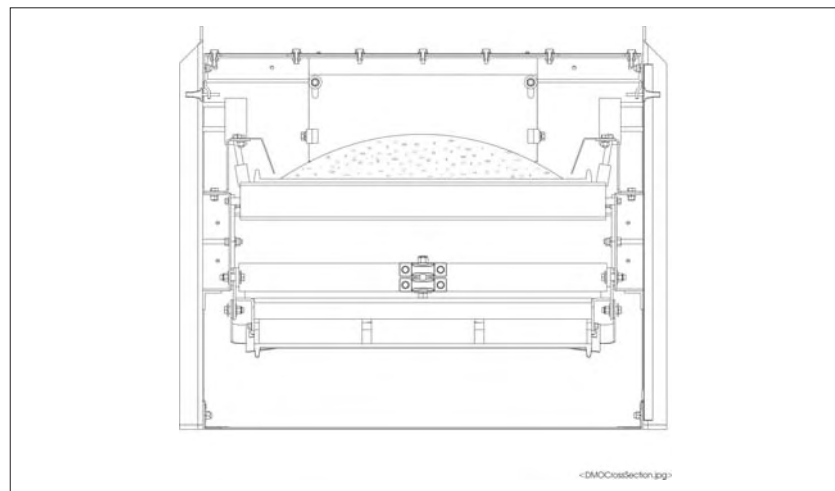

Figure 7: Bed Depth, Shear Gate Setting
- Start DMO weighfeeder and determine load and bed depth cross-section in local mode (see Fig. 7).